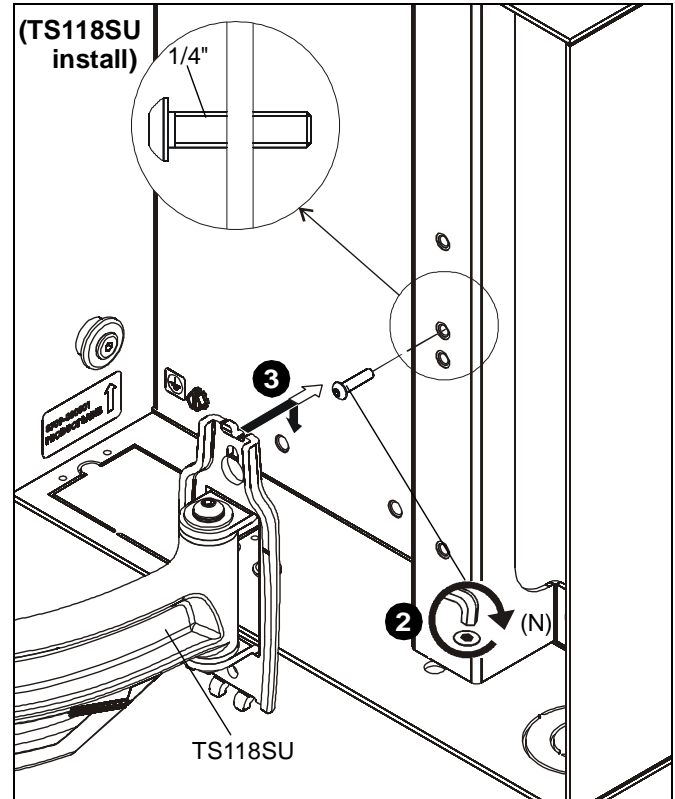
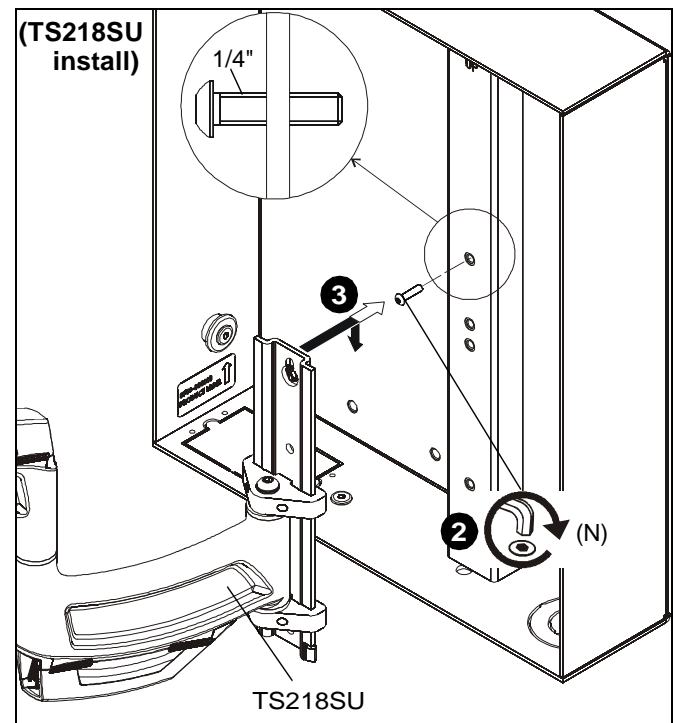

Figure 8
Figure 9
2. Partially install 1/4-20 x 1/2" button head cap screw (N) into corresponding hole on attach bracket (P), leaving screw hanging out 1/4" from bracket. (See Figure 8) or (See Figure 9)
3. Hang TS118/218SU mount onto screw by latching key-shaped hole over screw. (See Figure 8) or (See Figure 9)